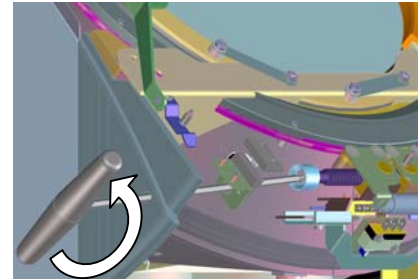

Fig. 62
- The ball-shaped head of the key must be inserted in a way that the hole of the guide plate engages with the hexagon screw (fig. 62).